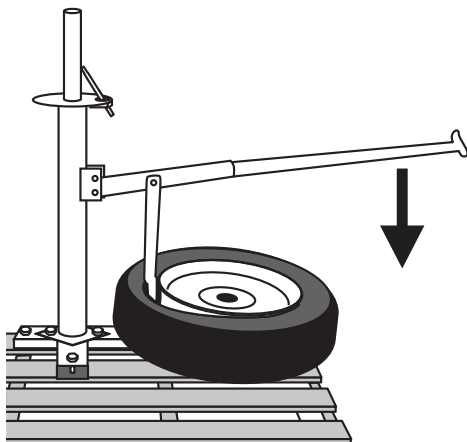

Figure 7
- Set the Bead Breaker Shoe against the edge of tire rim. See Figure 7, below.
- Insert Mounting/Demounting Bar into Bead Breaker Handle. Once inserted, push down on Bead Breaker Handle, allowing the Bead Breaker Shoe to lift tire bead off of rim. See Figure 7, below.